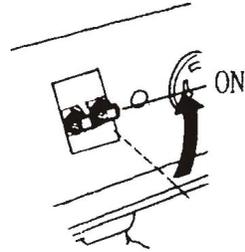

Figure 32
- Turn on the circuit breaker AC (Figure 32)